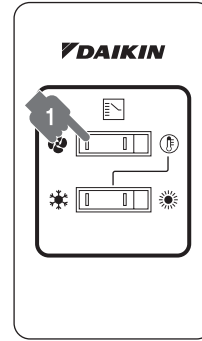

figure 7.3
- “🌀” Fan only operation (Refer to figure 7.3)